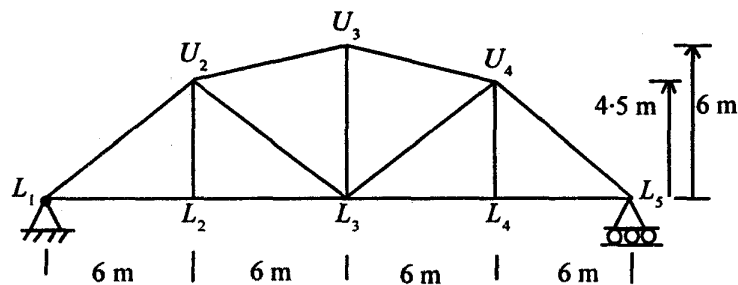

Fig. 3
3. Draw the influence lines for forces in the members U_2U_3 , U_2L_3 and L_2L_3 of a truss (Fig. 3). If a line load of 8 kN/m traverses from L_1 to L_5 , find the value of maximum forces in these members. 20